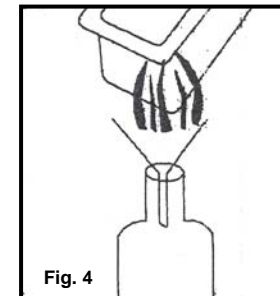

Fig. 4
- To filter the oil first make sure the oil has cooled and then empty the oil from the oil container into another container or bottle. Fig. 4